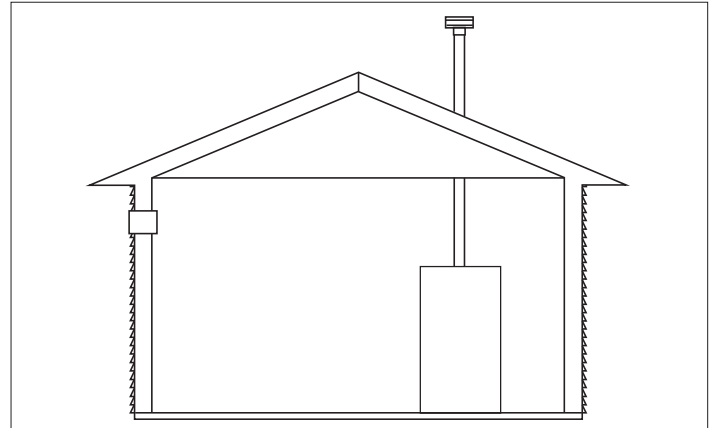

Figure 26 - Combustion Air from Outdoors - Single Opening
4. If a single combustion air opening is provided to bring combustion air in directly from the outdoors, the opening must be sized based on a minimum free area of one square inch per 3000 BTU/hr. This opening must be located within 12" of the top of the enclosure. See Figure 26.